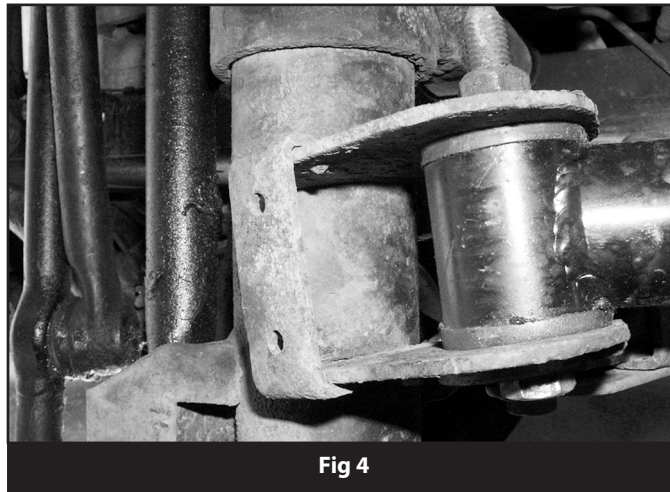

Fig 4
15. Install new long arm with 'pitched' end located in axle pocket, grease zerks facing down. Follow appropriate step depending on model year: (Fig. 4)